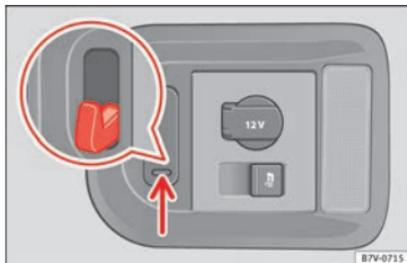

Fig. 172 In the luggage compartment: retaining hooks
On the right-hand side of the luggage compartment, there are folding retaining hooks **» Fig. 172** that can be used to secure light shopping bags.
- Press the retaining hooks down **» Fig. 172** (arrow) and fold them.